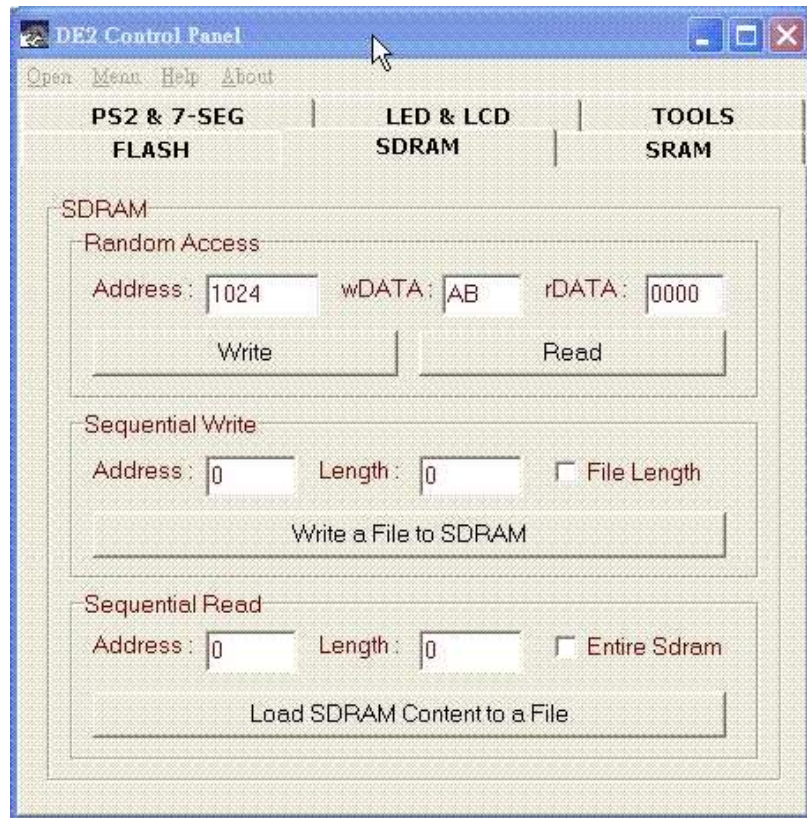

Figure 11.8. The SDRAM Controller Panel
1. Please refer to Figure 11.8. Click on Button SDRAM to switch to SDRAM Control Page.
4. You can also load a file into SDRAM by using Sequential Write function. Please refer to Figure 11.8. You have to specify the starting address and the length (in bytes) to be written into the SDRAM.
6. Sequential Read function allows you to read the content in SDRAM and save into a file. Figure 11.8 shows the screen capture of the Sequential Read. You can also specify the starting address and the length (in bytes) to read from the SDRAM. By clicking on the "Entire SDRAM" checkbox, you are indicating that you would like to load entire SDRAM (8Mbyte) into a file specified by you.